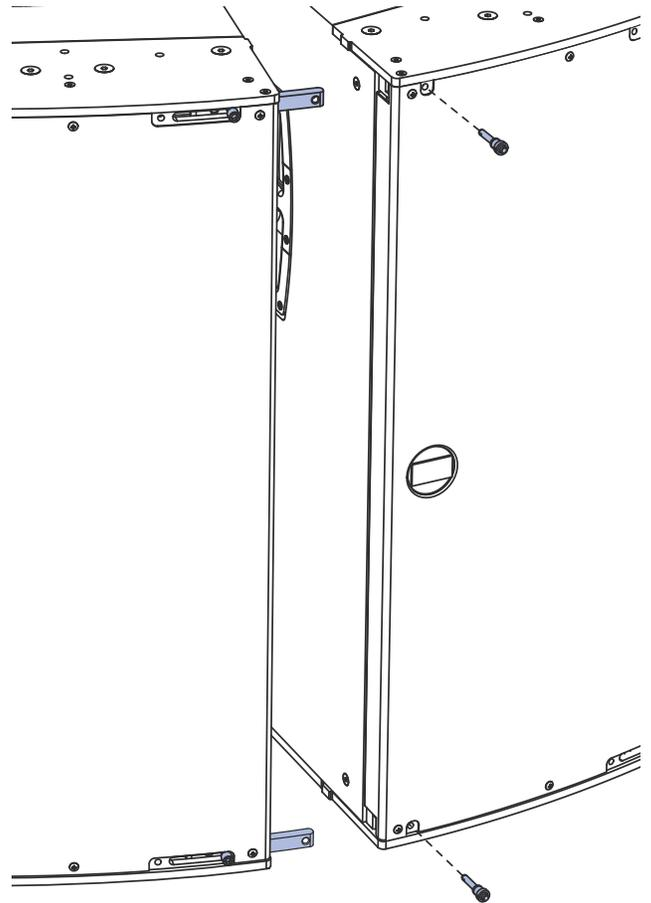

Figure 12: Inserting Front GuideALinks
6. Secure the front GuideALinks with the quick-release pins stored at the right top and right bottom of the loudspeaker. The pins are inserted from the front (Figure 12).